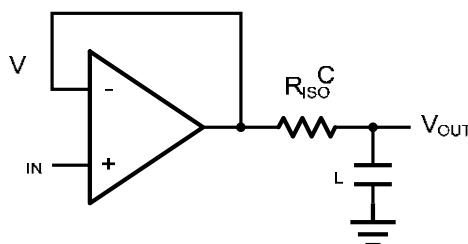
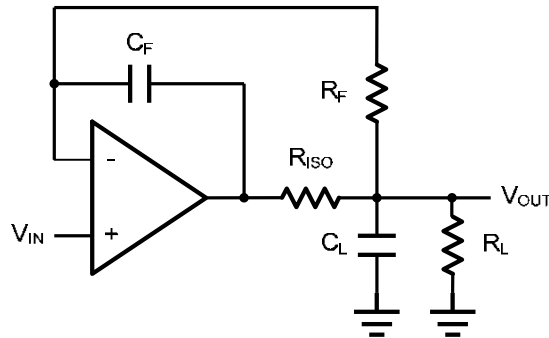

Figure 2 Indirectly Driving a Capacitive Load Using Isolation Resistor
Figure 3. Indirectly Driving a Capacitive Load with DC Accuracy
The MCP600X family is optimized for bandwidth and speed, not for driving capacitive loads. Output capacitance will create a pole in the amplifier's feedback path, leading to excessive peaking and potential oscillation. If dealing with load capacitance is a requirement of the application, the two strategies to consider are (1) using a small resistor in series with the amplifier's output and the load capacitance and (2) reducing the bandwidth of the amplifier's feedback loop by increasing the overall noise gain. Figure 2 shows a unity gain follower using the series resistor strategy. The resistor isolates the output from the capacitance and, more importantly, creates a zero in the feedback path that compensates for the pole created by the output capacitance.
The circuit in Figure 3 is an improvement to the one in Figure 2.  $R_F$  provides the DC accuracy by feed-forward the  $V_{IN}$  to  $R_L$ .  $C_F$  and  $R_{ISO}$  serve to counteract the loss of phase margin by feeding the high frequency component of the output signal back to the amplifier's inverting input, thereby preserving the phase margin in the overall feedback loop. Capacitive drive can be increased by increasing the value of  $C_F$ . This in turn will slow down the pulse response.